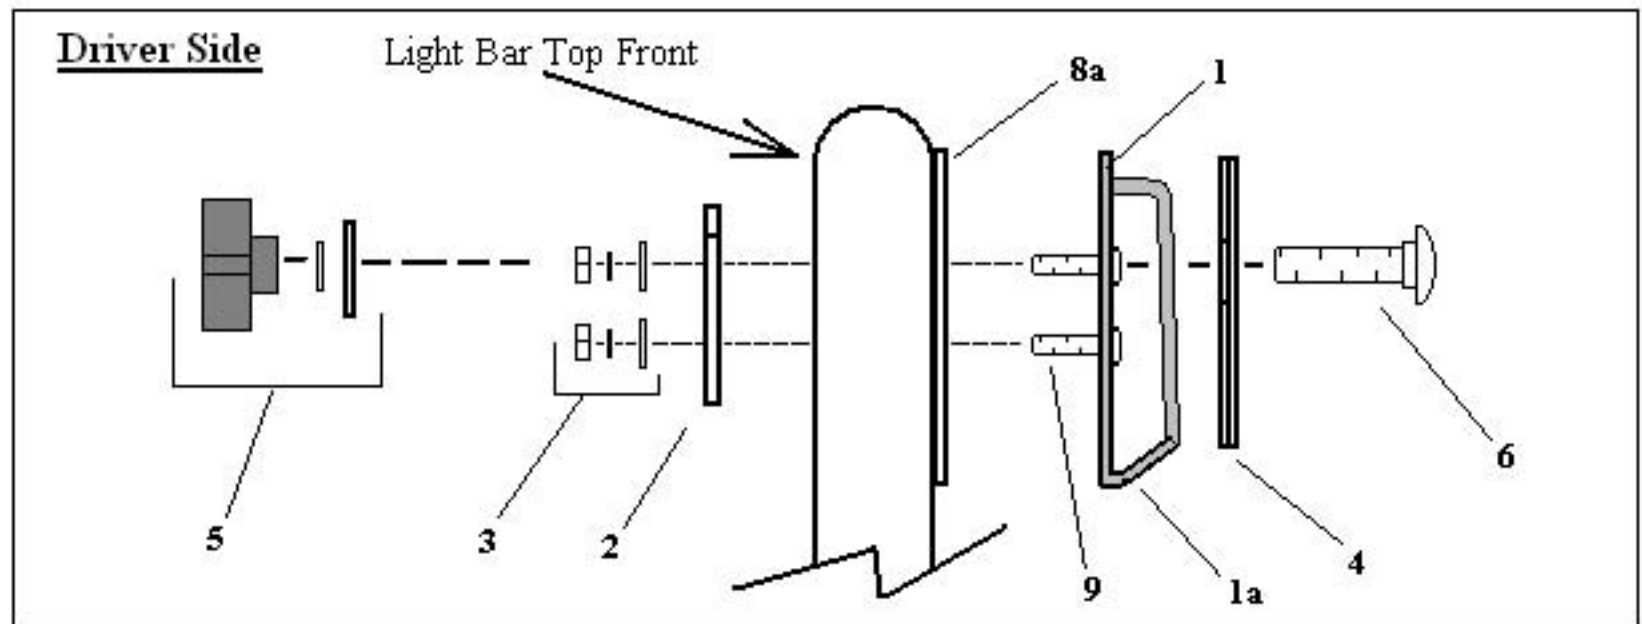

FIG. 2
- 6- Refer to page 4 Fig. 2 and Fig. 3 begin attaching Driver side "Quick Release" saddle (1) by sliding both screws (9) through square holes located on the Light Bar Driver side plate (8a) as shown in Fig. 3. Place clamp (2) as shown onto front side of Light Bar plate (8a) and over "Quick Release" saddle screws (9). Continue by using the 5/16" nuts, lock washers and flat washer (3) previously removed over clamp (2) and onto screws (9) snug down only at this time.
- 7- Refer to page 5 **Step 1** while working on the driver side place safety plate (4) onto "Quick Release" saddle (1) as shown then refer to page 4 Fig. 2 and assemble the 3/8-16 carriage bolt (6) through safety plate (4) then through "Quick Release" saddle (1). Place the 3/8 hard washer, lock washer and finally hand knob (5) in place and tighten but not fully.
- 8- Refer to page 5 **Step 1** place Safety pin (7) towards the front side of the light bar over the lower cross bar (8c) as shown to prevent any potential interference. Continue now to the passenger side and attach the passenger "Quick Release" saddle in the same manner.
- 10- Refer to page 5 **Step 2** guide the two round bolt holes (10) in plate (16) of the roof rack over and onto the bolt heads (9) of the "Quick Release" saddle (1) as shown in **Step 2**. While holding the roof rack in place over bolt heads (9) fully loosen the hand knob (5) *not shown* holding safety plate (4) in place then lift and swing safety plate (4) horizontally as shown in **Step 2** and **Step 3** in the direction of letters B,C and D. Continue as shown in **Step 4** by sliding safety plate (4) horizontally under roof rack tubing (11a) and over roof rack tubing (11b) finally aligning safety pin holes (4a) of the safety plate (4) and "Quick Release" saddle (1). Fully tighten hand knob (5) as shown on page 4 Fig 2 then apply the same procedure to the opposite side.
- 11- Refer to page 5 **Step 4** and thread safety pin (7) through the aligned holes (4a) of both the Safety plate (4) and "Quick Release" saddle (1) then place spring over the top of the safety pin to prevent release.
- 12- Refer to page 4 Fig 2 while the roof rack is held in place by the "Quick Release" saddles (1), Safety plates (4) and hand knobs (5) fully tighten nuts (3) **"DO NOT BEAR DOWN WITH ALL YOUR MIGHT"** use only enough force to flatten lock washers and apply some tension. Double check that both hand knobs (5) are fully tightened.